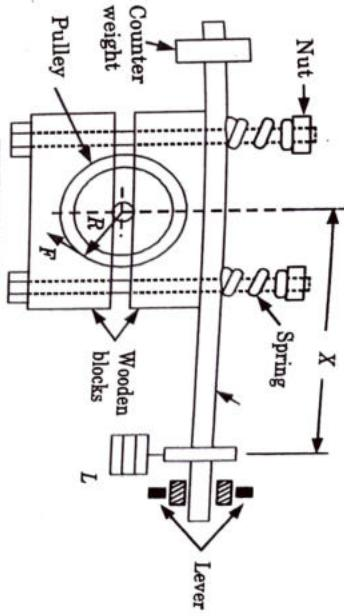

Fig. 4.17.1. Prony brake dynamometer.
- It consists of two wooden blocks, placed around a pulley of radius  $r$  as shown in Fig. 4.17.1.